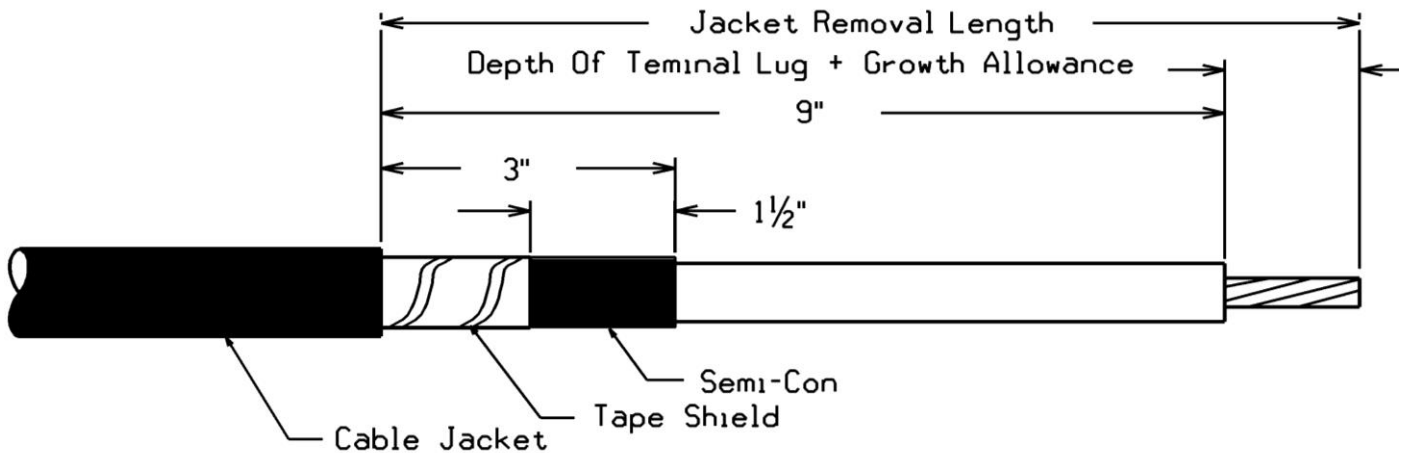

Figure 5
2. Prepare cable using dimensions shown in Figure 5. Be sure to allow for the depth of the terminal lug and growth of Aluminum Lug (if used – see chart below). If necessary to prevent tape shield from unraveling, TEMPORARILY hold down the edge with a single wrap of vinyl electrical tape.